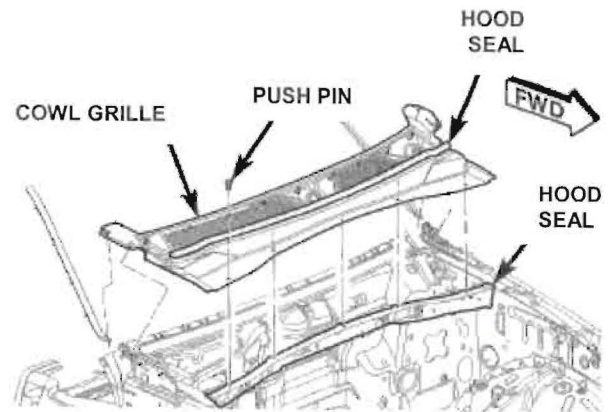

Figure 1
3. Open the hood and remove the hood seal (Figure 1).
5. Remove the five push pins and remove the cowl grille from the body (Figure 1).
27. Position the cowl grille and engage the clips to the bottom of the windshield (Figure 1).
28. Install the four push pins through the cowl grille and into the body (Figure 1).
29. Install the hood seal (Figure 1).